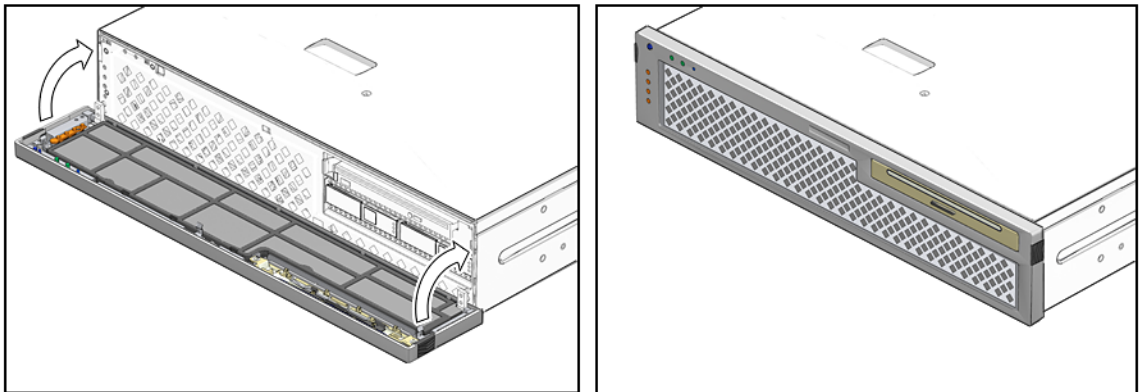

FIGURE 3-6 Closing the Bezel
5. Close the bezel (FIGURE 3-6).